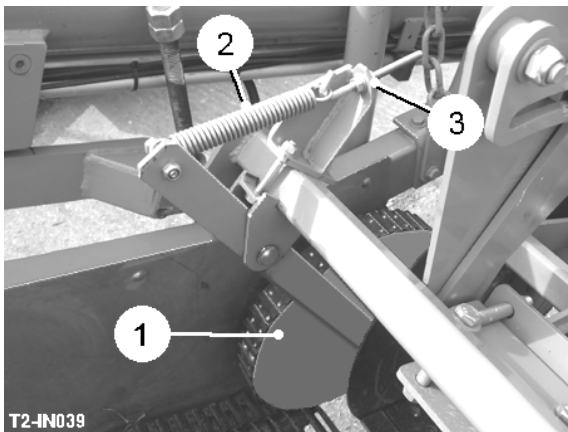

Fig 7
Haulm intake rollers (item 1, fig 7) are fitted for two reasons. The primary reason is to draw in loose haulm and trash from the sides of the ridges and feed it onto the digger web, thus preventing it from building up on the leading edges of the web sides or between the centre disc coulters. The second function is to prevent potatoes from rolling out of the front of the digger web between the discs coulters and the web sides. Depending on the width of the digger web and the row width configuration to be lifted, the haulm roller build will vary. The rollers are spring loaded onto the digger web bars. The outer roller assemblies are fitted with tension springs (item 2, fig 7), and are tensioned by the adjusters (item 3, fig 7). The centre rollers (if fitted) are mounted on a spring-loaded arm and are tensioned similarly with a coil spring and threaded adjuster. Alternatively, rubber deflectors may be fitted between the centre disc units.